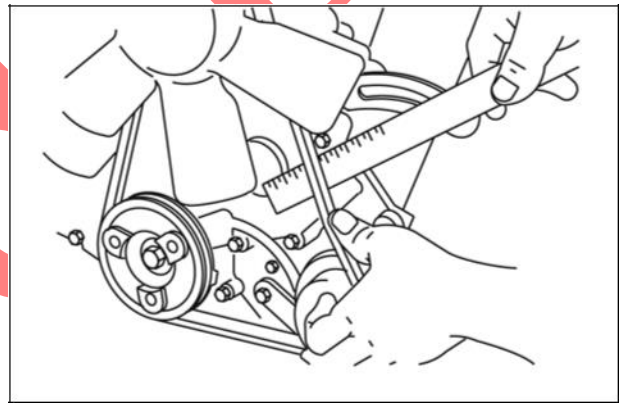

Figure 21
14. Apply a small bead of Permatex® No. 2 or other similar sealant (A, Figure 21).